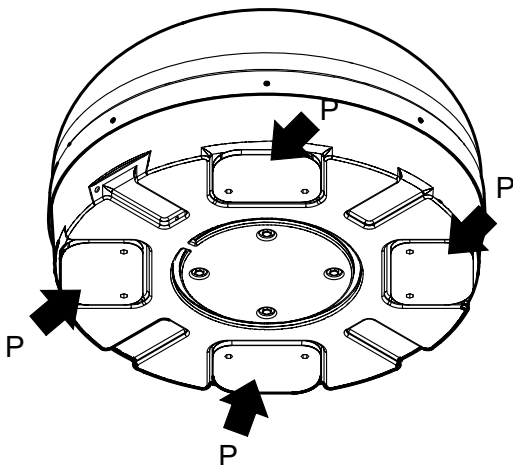

Fig. 8
2. Carefully clean the 4 mounting plates (P) on the antenna and the vehicle roof with alcohol and let evaporate before applying the sealant (**Fig. 8**).